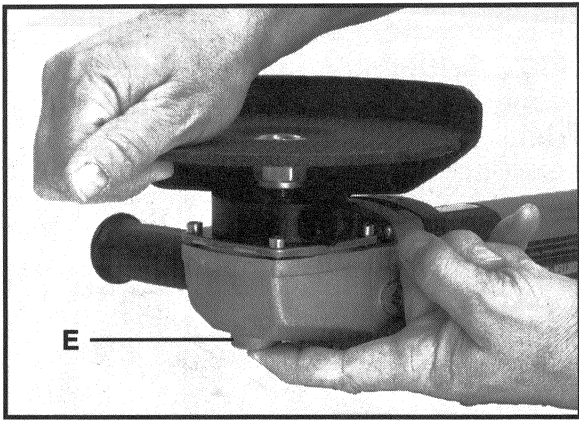

Fig. 5
4. Depress and hold spindle lock button (E) Fig. 5, while rotating grinding wheel clockwise until spindle lock engages. Continue rotating wheel until firmly seated on spindle.